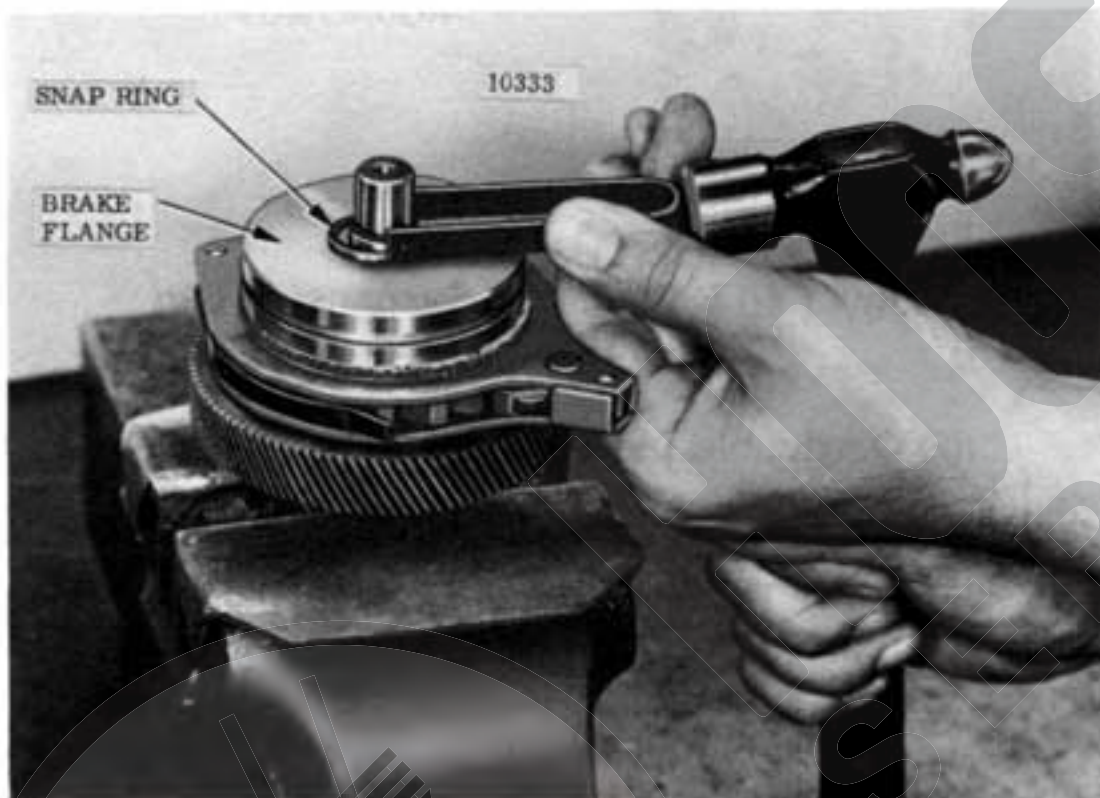

Figure 7-18. Removing Snap Ring from Load Brake Shaft.
- (1) Place load brake and clutch assembly, flange up, in a vise equipped with brass or copper jaw plates to protect pinion gear teeth. Remove snap ring from end of load brake shaft (Figure 7-18).